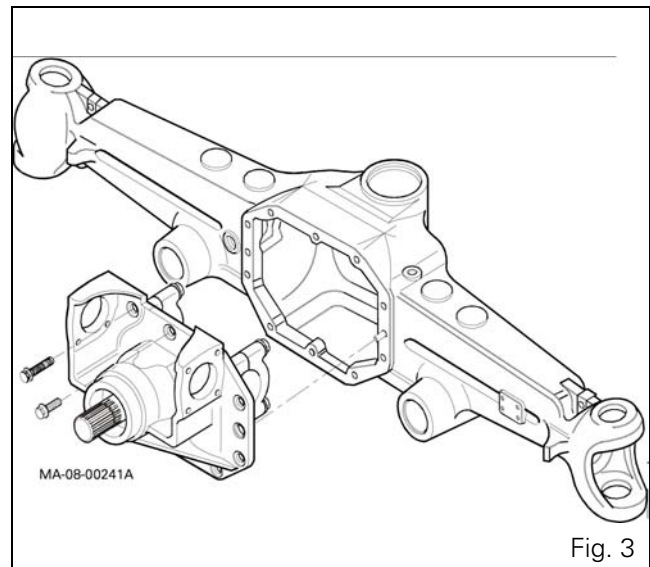

Fig. 3
Remove the differential housing (Fig. 3).
**Warning: Hold the differential housing in place with a sling or another suitable fixture (Fig. 3).**